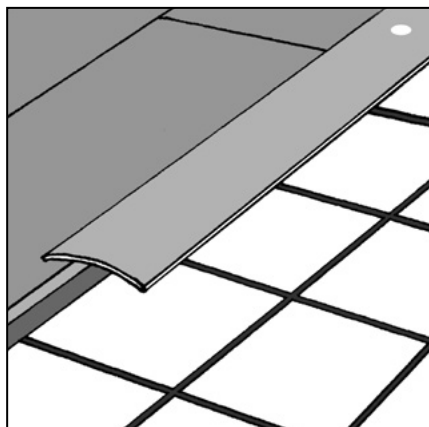

Figure 20 Threshold strip
6.27.13 Installing across multiple rooms (fig. 20)